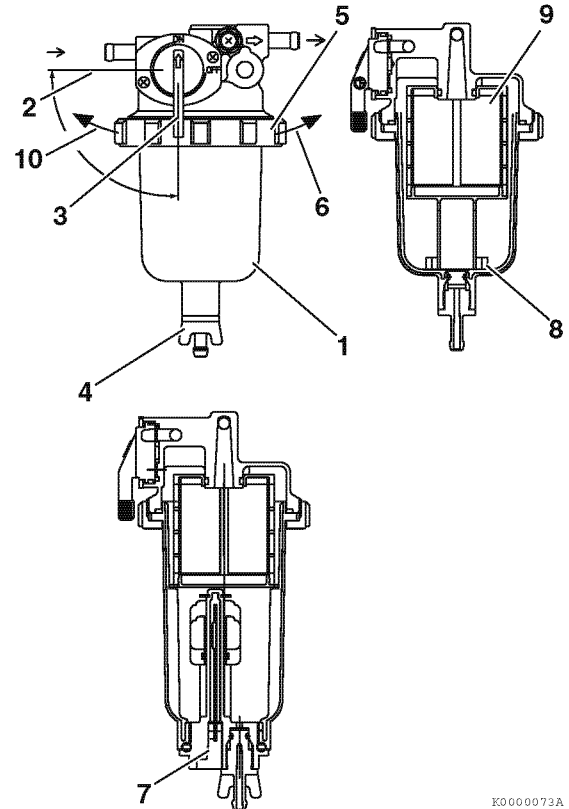

Figure 5-12
1. Position an approved container under the cup (1, **Figure 5-12**) of the fuel filter/water separator to collect the contaminants.
2. Close (2, **Figure 5-12**) the fuel cock (3, **Figure 5-12**).
3. Loosen the drain cock (4, **Figure 5-12**) and drain the contaminants. *See Drain fuel filter/water separator on page 5-8.*
4. Turn the retaining ring (5, **Figure 5-12**) to the left (10, **Figure 5-12**) and remove the cup (6, **Figure 5-12**). If equipped, disconnect the sensor wire (7, **Figure 5-12**) from the cup before removing the cup.
6. Remove the float ring (8, **Figure 5-12**) from the cup. Pour the contaminants into the container and dispose of it properly.
7. Clean the element (9, **Figure 5-12**) and inside cup. Replace the element if it is damaged.
11. Install the cup to the bracket by tightening the retaining ring to the right (6, **Figure 5-12**) to a torque of 11 - 15 ft·lb (15 - 20 N·m; 1.5 - 2.0 kgf·m).
13. Open the fuel cock (3, **Figure 5-12**).